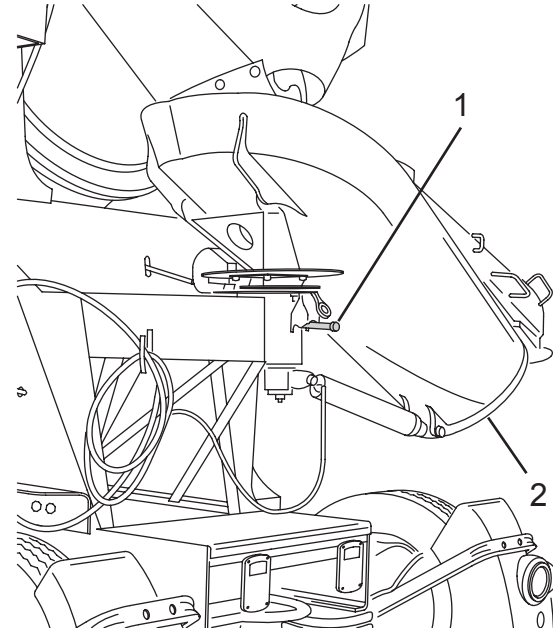

Figure 66
2. While holding the chute, pull down on the lever (Figure 66, Item 1) and move it to the right or left until the lever is seated in one of the lock positions.
3. Move the main chute (Figure 66, Item 2) to the desired position, and while holding the chute, move the lever to the center. Make sure the lever pin is fully seated into one of the holes in the chute plate before releasing the chute. Move the main chute from side to side as needed to align the pin and hole.